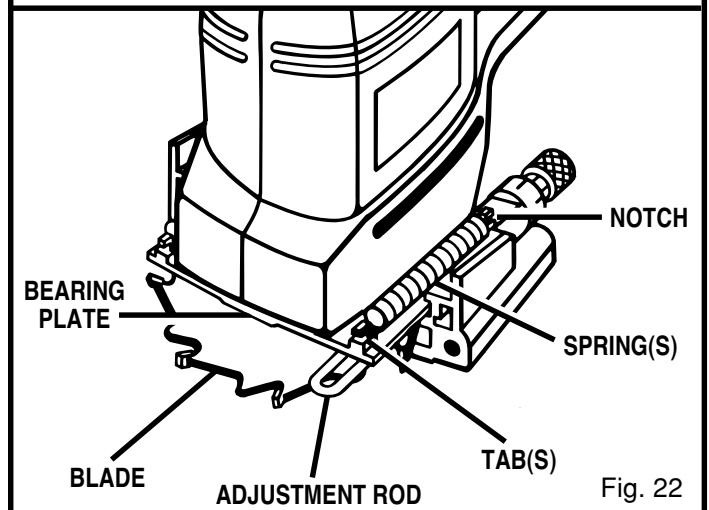

Fig. 22
6. Using a pair of needle nose pliers, stretch and release springs from tabs on bearing plate. See Figure 22.
10. Replace rear base assembly. Position adjustment rod in its proper place as shown in figure 22.